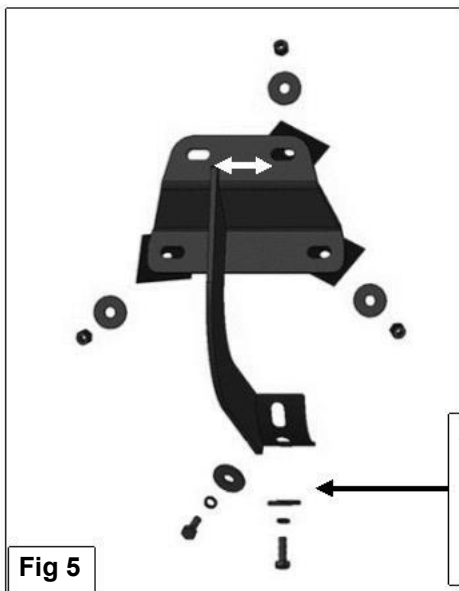

Fig 5
5. Select the driver/left Sidebar. Carefully position the Sidebar onto the (3) Mounting Brackets. **IMPORTANT:** Do not slide, (front to back or rotate), the Sidebar on the Brackets or damage to the finish on the Sidebar may result. Attach the Sidebar to the Mounting Brackets with (4) 8mm x 25mm Hex Bolts, (4) 8mm Lock Washers and (4) 8mm Flat Washers, (Figure 5). Do not tighten hardware.